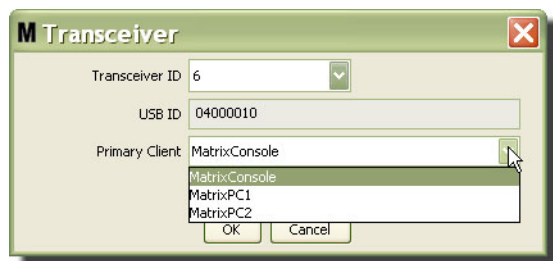

FIG. 91
- To modify the Primary Client assigned to a transceiver, click the arrow next to the Primary Client field to display the drop-down menu (FIG. 91). The purpose of assigning a Primary Client to a transceiver is to properly route Parts Room Authorization (PRA) requests from meters to proper PC client. If PRA mode is not being used, simply assign all transceivers to the default Matrix Console client.